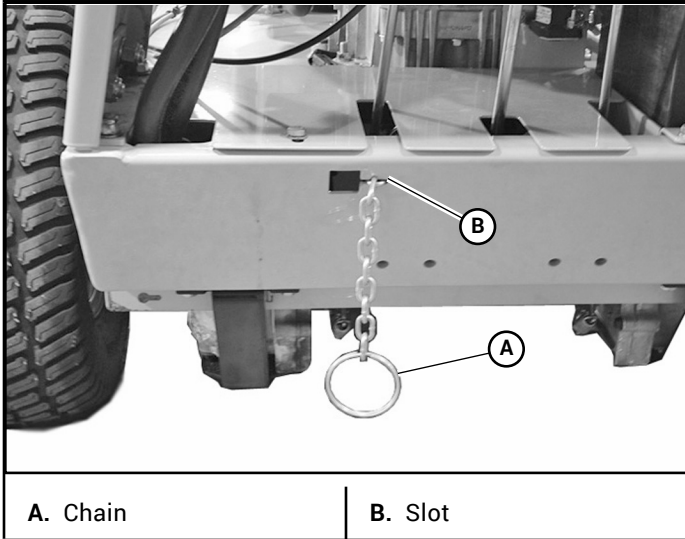

Figure 3-6
**To disengage** the pump clutch, **pull the chain** until the tension is released from the pump drive belt and latch in the slot. Figure 3-6